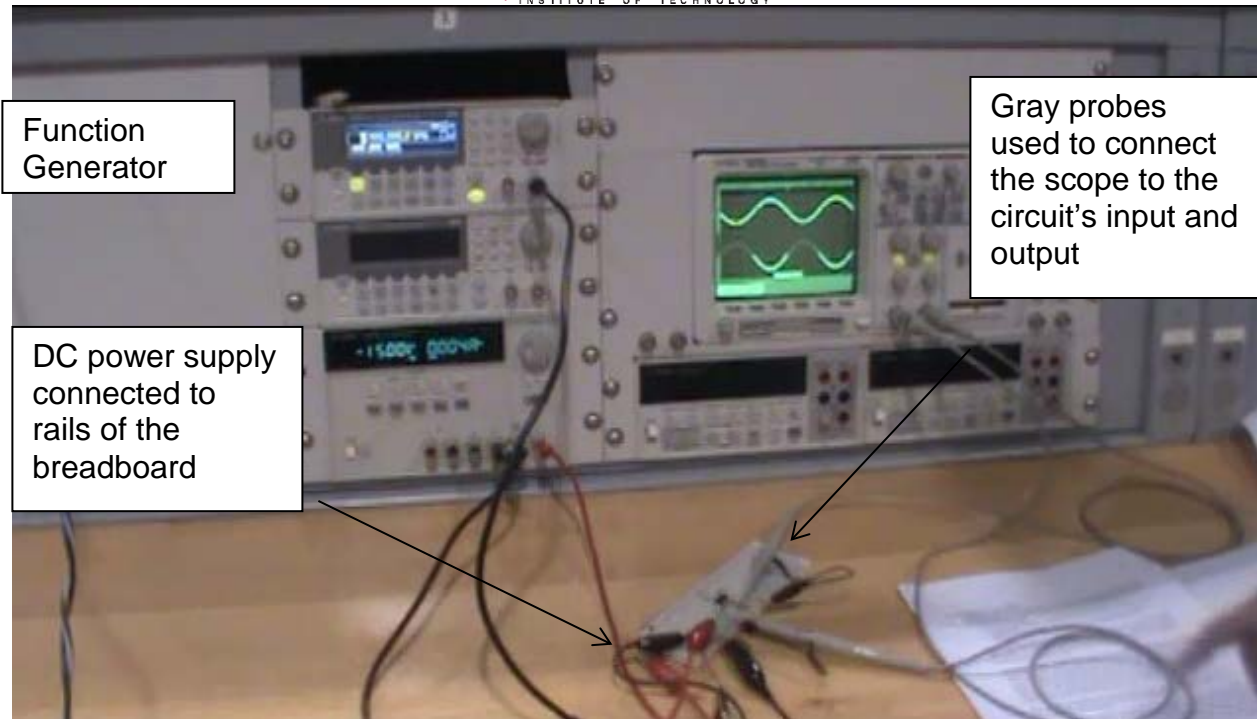

Figure 8-5: Set-up of inverting op amp circuit with an AC input
2.6.3 Set up the scope to measure the input signal of your circuit to the port labeled “1” by connecting the positive lead (the hook) to the input resistor and connect the ground (black) to the common ground of your circuit. Set up the scope to measure the output signal of your circuit to the port labeled “2” by connecting the positive lead (the hook) to pin 1 and connect the ground (black) to the common ground of your circuit (bottom row A). Double check that all grounds are connected to the same point (all black leads should be connected to the bottom row A). The set-up is shown in Figure 8-5.